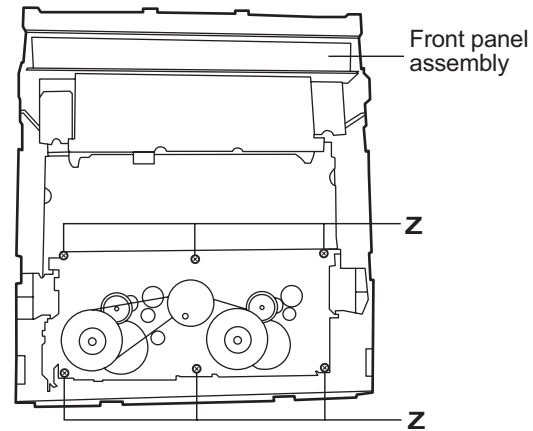

Fig.19
### 3.2.6 Removing the cassette deck mechanism (See Fig.19)
### 3.2.10 Removing the cassette deck main motor, and replacing the main belts (See Fig.19, 24 and 25)
- (1) Remove six screws **Z** retaining the cassette deck mechanism. (Fig.19)
- (2) Remove the cassette deck mechanism.
- (3) Remove two screws **t** retaining the main motor from the front side of the cassette deck.
### 3.2.11 Removing the leaf switches of the cassette deck mechanism (See Fig. 19 and 26)
- (1) Remove the six screws **Z** that retain the cassette deck mechanism. (Fig.19)
- (3) Turn the cassette deck mechanism upside down.
- (4) Remove the solder from around the leaf switches.
- (5) Pull out the leaf switches from the front side of the cassette deck mechanism.
(See Fig. 19 and 27)
- (1) Remove six screws **Z** that retain the cassette deck mechanism. (Fig.19)
- (2) Remove the cassette deck mechanism and place it so that the front side faces up.
- (3) Remove the solder from the bottom side of the head terminal and disconnect the wire.
- (4) Remove screws **U** that retains the head.
- (5) Remove screws **V** that retains the head.
- (6) Hold the head and slide it in the direction of the arrow to remove it.